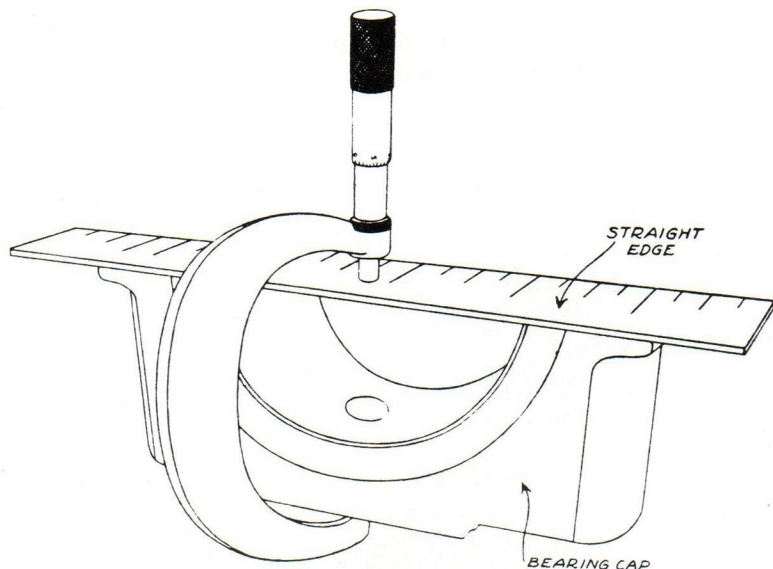

Fig. 2
4th: Wipe off with a piece of clean cloth every trace of emery dust. Then, recheck the bearing cap, as illustrated in figure 2, deducting the second measurement from the first, which will show the amount of metal removed. Continue this operation until the correct amount has been removed, which amount has been determined as explained above. A possible variation of one thousandth minus (.001"-) is permissible; however, this should not be necessary provided care is taken **NOT** to remove too much metal at one time. It is far better to do the grinding operation gradually than it is to attempt to remove all the metal in one operation.
- 2nd: Place a straight edge so as to span the two flanges of the bearing cap, and with a micrometer, one edge resting on the straight edge and the other on the bottom of the bearing cap, make a record of the measurement. (See Fig. 2.)